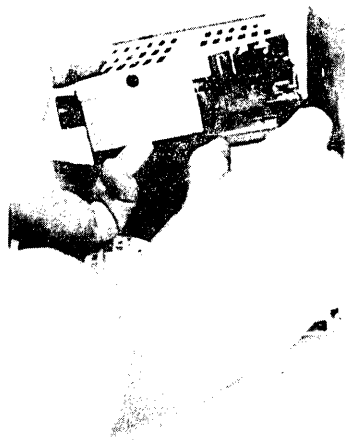

FIGURE 10
4. Disconnect the ribbon cable connector (see Figure 10) from the back of the micro disk drive (not from back of carrier).